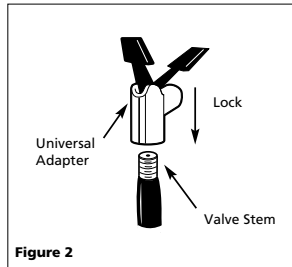

Figure 2
3. Inflate object by locking universal adapter onto valve stem. Be sure to press universal adapter down over valve stem threads completely. When universal adapter is firmly in place, press locking lever down to lock onto valve stem (see Figure 2).